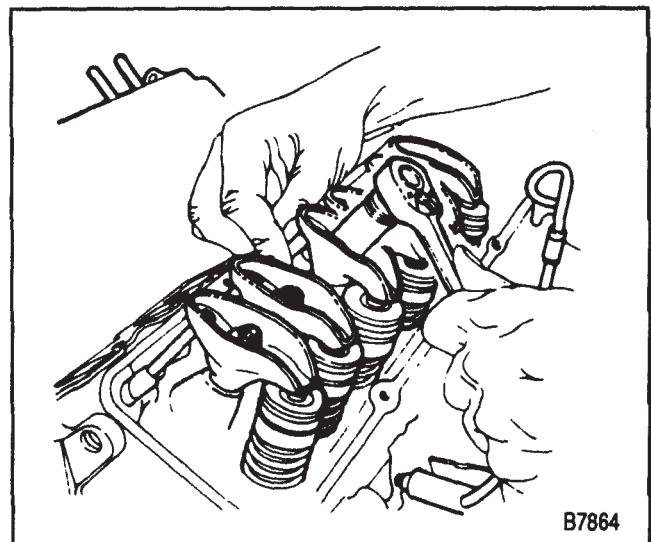

Figure 8—Adjusting the Valves (VIN Z Engine)
4. Back out the adjusting nut until lash is felt at the pushrod then turn in the adjusting nut until all lash is removed. This can be determined by rotating the pushrod while turning the adjusting nut (figure 8). When the play has been removed, turn the adjusting nut in one full additional turn (to center the lifter plunger).